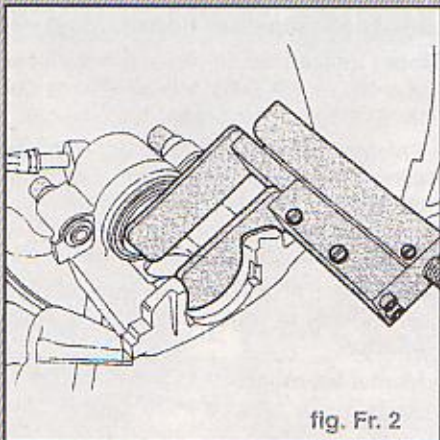

fig. Fr. 2
- Repousser le piston (Fig. Fr. 2).